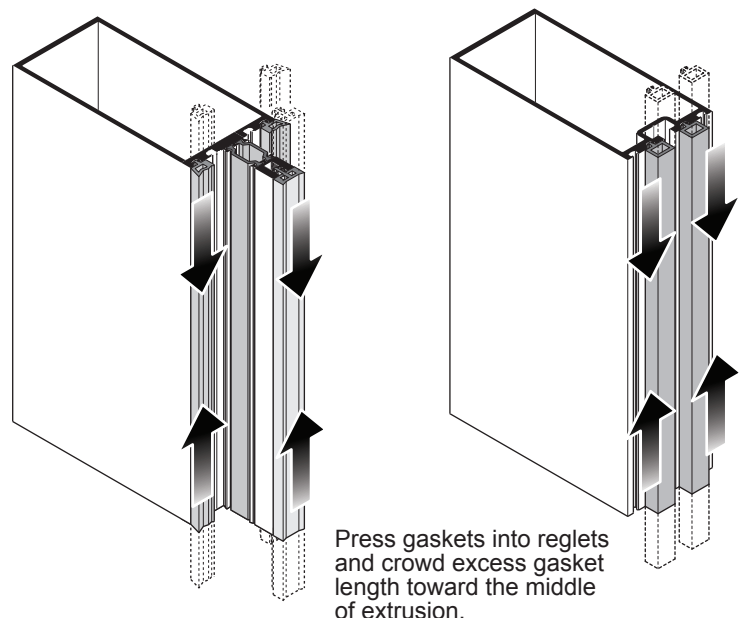
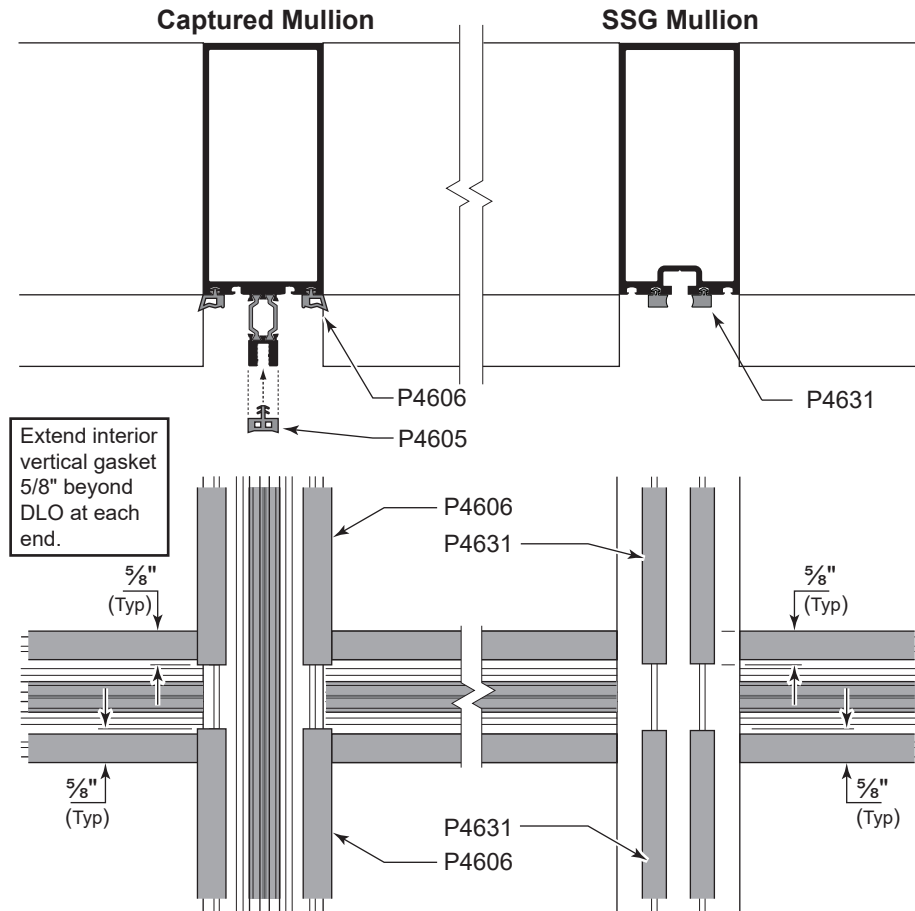

Fig. 40.2
Fig. 41.1
- B. Install P4606 gasket into vertical mullions. See **Fig. 40.2**. Vertical mullion gaskets run beyond the horizontals. Run the vertical gasket through the vertical splice joint, setting in fresh sealant at the splice. Notch darts off the gasket as required for proper fit.
- E. For SSG vertical applications, install the P4631 gasket into vertical mullion with equal overlap into each horizontal pocket. See **Fig. 40.2** and **Fig. 41.1**.